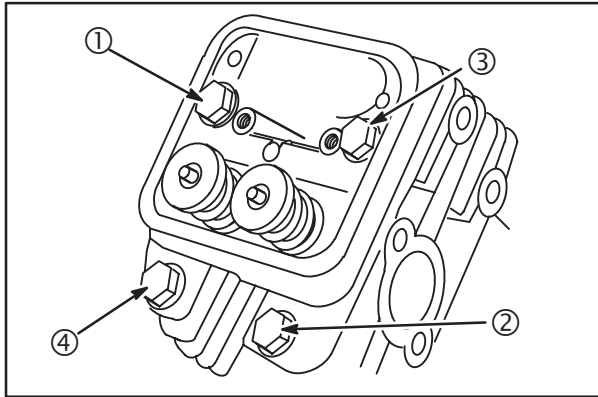

Fig. 20
1. Install cylinder head with NEW gasket, **Fig. 20**.
3. Torque bolts in the sequence shown, **Fig. 20**, to **165 in. lbs. (19 Nm)**.